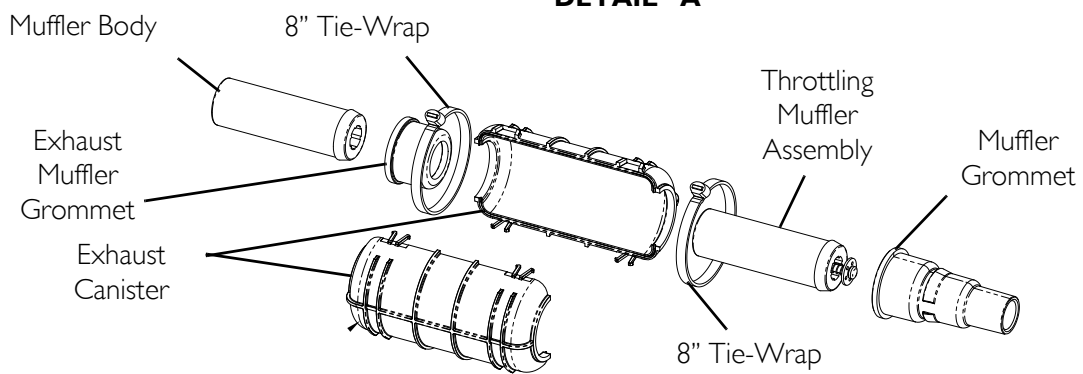

FIGURE 6.5 Replacing the Muffler Assembly
NOTE: For this procedure, refer to FIGURE 6.4 on page 27 and FIGURE 6.5 on page 28.
8. Separate the muffler assembly (Detail "A" in FIGURE 6.5).